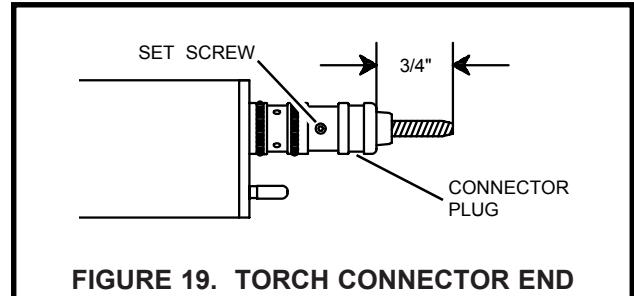

FIGURE 19. TORCH CONNECTOR END
4. Loosen set screw located on the connector end of the torch assembly (see FIG. 19).
5. Tighten set screw. (Do not over-tighten), refer to FIG. 19.